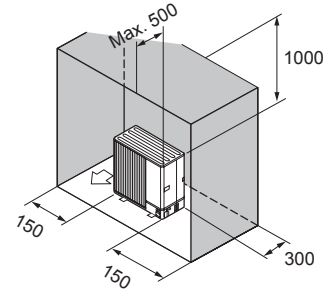

Fig. 2-29
- ⑥ Obstacles at rear, sides, and above only (Fig. 2-29)
(3) When installing multiple outdoor units (Refer to the next page)